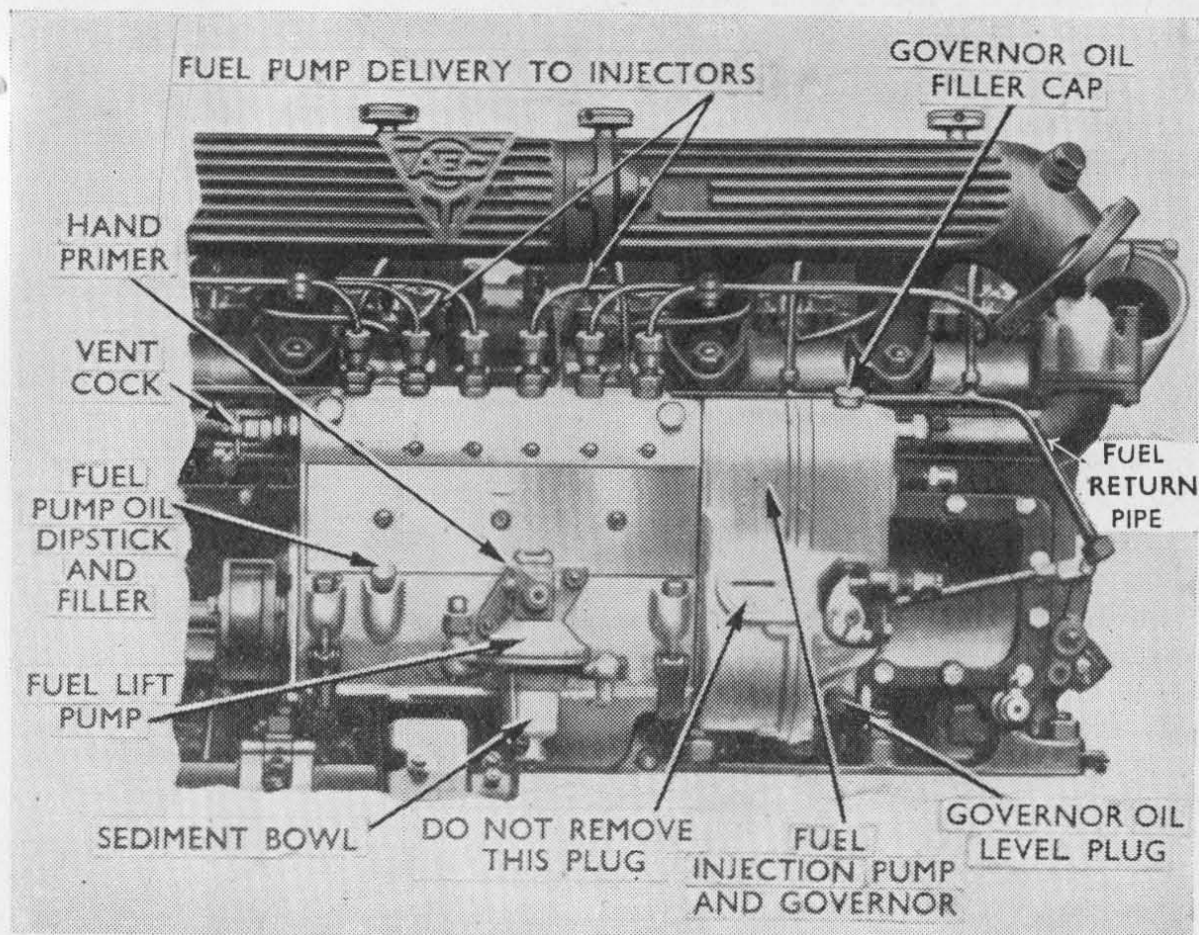

Fig. 19. Fuel Injection Pump (C.A.V.)
- (ii) Union nuts on drain pipes for injectors, and fuel return pipe to tank (see Fig. 19).
(i) Clean out sediment bowl of fuel lift pump (*see Fig. 19*).